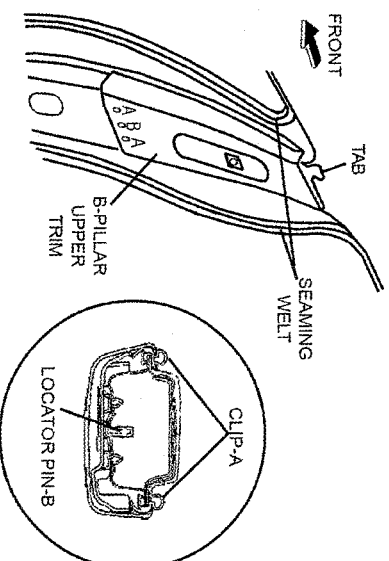

FIGURE 35
- 2.) PULL THE B-PILLAR UPPER TRIM OUTWARD AND DETACH CLIPS A AND LOCATOR PIN B. (SEE FIGURE 35)
- 3.) DETACH THE TAB FROM THE BODY AND REMOVE THE B-PILLAR UPPER TRIM. (SEE FIGURE 35)